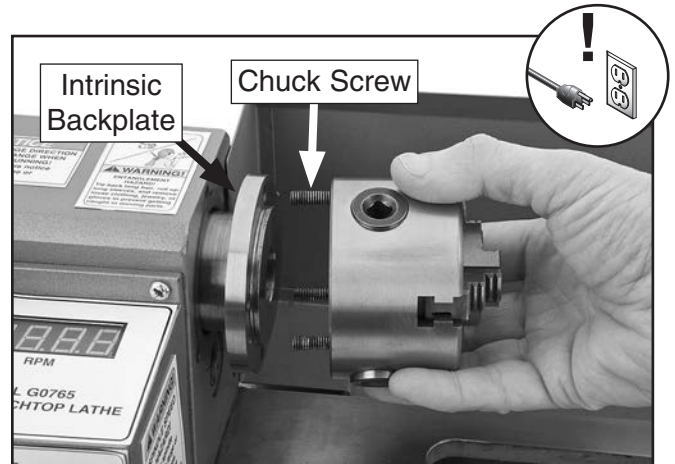

Figure 20. Inserting chuck into backplate.
4. Insert chuck screws through mounting holes in spindle backplate, as shown in **Figure 20**. Make sure chuck seats firmly and evenly against backplate shoulder.